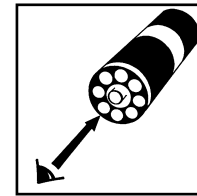

Figure 5
9. Place the VACUette ampoule, flat end downward into the center tube of the comparator. Direct the top of the comparator up toward a bright source of light while viewing from the bottom. Rotate the comparator until the color standard below the ampoule shows the closest match (fig 5). If the color of the VACUette ampoule is between two color standards, a concentration estimate can be made.